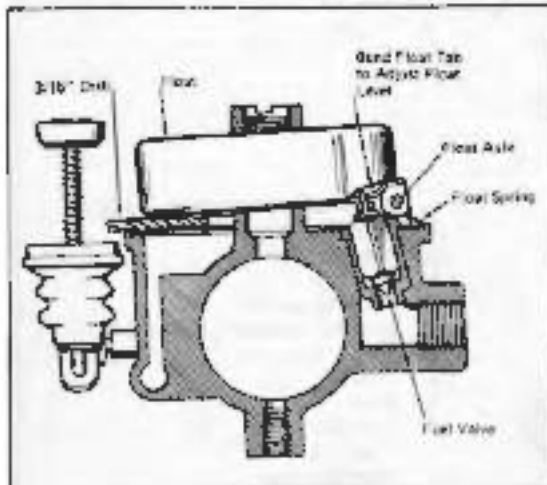

Figure 3-72
Adjust throttle lever stop screw (2, Figure 3-72) to make engine idle at desired speed with throttle fully closed. Turning screw clockwise makes engine idle faster. Never set idle adjustment to a speed faster than 1000. An extremely slow idle causes ligthing wear, oil consumption and slow speed running difficulties.
9. Insert fuel valve assembly (14) in fuel valve seat. Assemble float spring (13) and float (12) and install float pin (11). Be sure that fuel valve clip is attached to the float tab. If necessary, bend clip to provide minimum clearance with tab (approximately .010 in.).
10. With the carburetor inverted (inlet needle seated), bottom surface of float should be 3/16 in. from gasket surface at point opposite hinge. A 3/16 in. drill can be used as a gauge as shown in Figure 3-72. If adjustment is required, use long nosed pliers to bend the tab that contacts the fuel valve. Be careful to avoid damage to the fuel valve or seat.
1. Carefully guide cup of accelerating pump (3) into pump well. Seat accelerating pump boot around top of accelerating pump boss.
2. Assemble washer (7) on main jet and discharge tube (6) and assemble O-ring (8) in groove near end of discharge tube.
3. Hold carburetor inverted (with float up) and rotate the long end of the spring upward so that it is against the float. Carefully position the fuel bowl on the throttle body releasing the float spring so that the long end of the spring presses against the side of the bowl (refer to Figure 3-72). Be sure that the accelerating jet fits properly in the hole in the throttle body.
4. Assemble main jet and tube (5) through hole in bottom of bowl and into throttle body boss.
5. Assemble gasket (5) on idle tube (4) and insert tube in throttle body. Carefully guide tube through bore and into discharge tube on opposite side of venturi. Tighten idle tube and main jet.